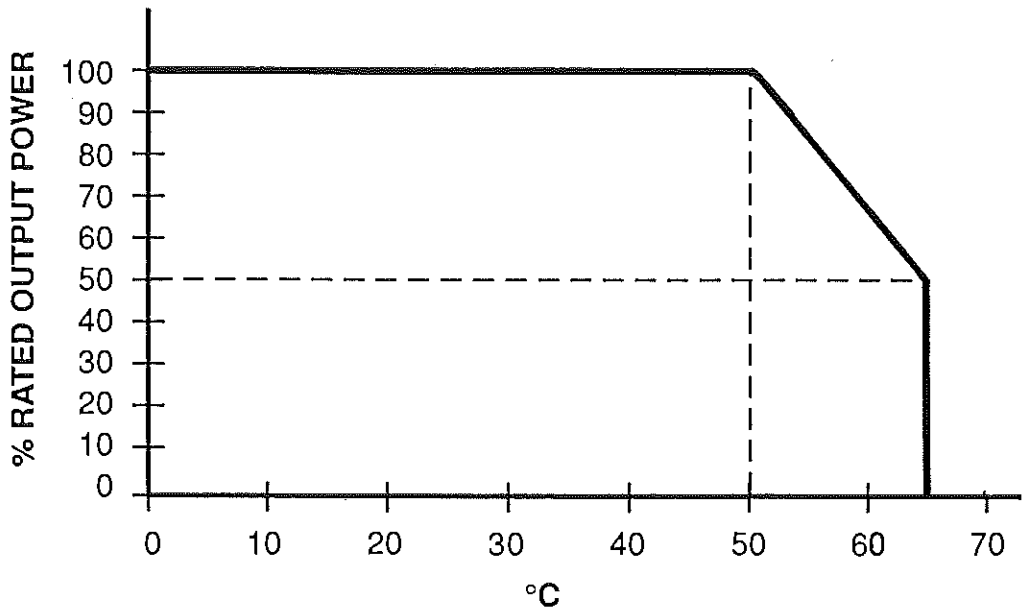

Figure 4. Output Power vs. Ambient Temperature.
- 9.3 **Output Power.** Rated continuous output power from all DC Power Modules in a given configuration is 800 watts maximum. 100% of rated output power can be drawn up to 50°C ambient temperature. Above 50°C the output must be derated at 3.3%/°C up to 65°C. See Fig. 4. The maximum operating temperature is 65°C.